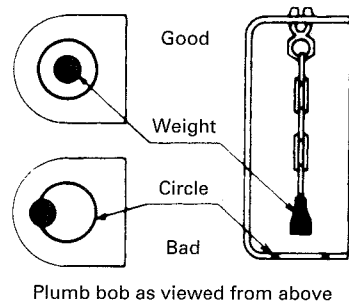

Fig. 13
9. Make sure the position of the heater is level by using the plumb bob located at the right side of the heater. The plumb bob weight should be within the circle. If the plumb bob weight is not within the circle, adjust the heater legs until the plumb bob weight is within the red circle (See Fig. 13 & 14).